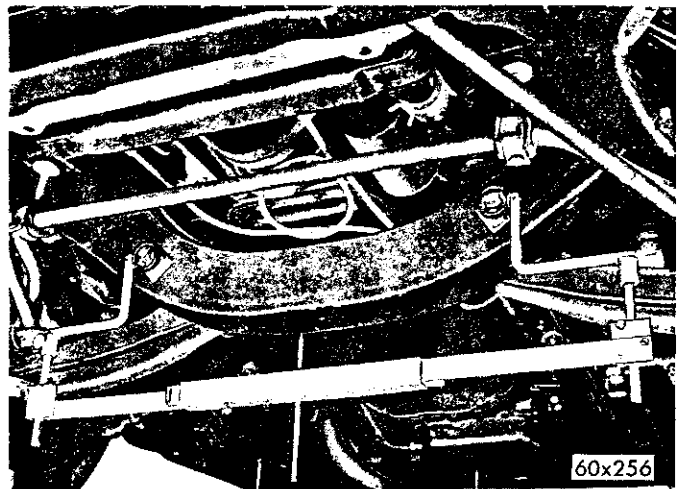

Fig. 13—Front Alignment Gauge (Typical Installation)
- (1) Remove the cotter pins from the lower control arm shafts and position the 36 inch gauge on the shaft nuts as shown in Figure 13.
- (2) Using the 45 inch gauge (middle gauge) posi-